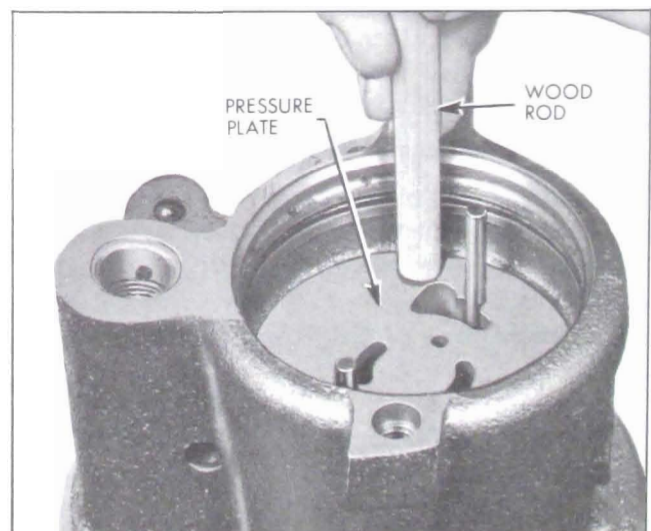

Figure 8-59—Sealing Pressure Plate in Housing
2. If shaft seal was removed, use installer J-7017 to drive new seal into housing with spring side of seal toward housing. See Figure 8-59. Just bottom seal in housing.
that are nearest outside diameter of plate. Use a soft plastic or wood rod and lightly tap around outside diameter of pressure plate to seat it. See Figure 8-59. Pressure plate will travel about 1/16" to seat. Never press or hammer on the center of pressure plate as this will cause permanent distortion and result in pump failure.